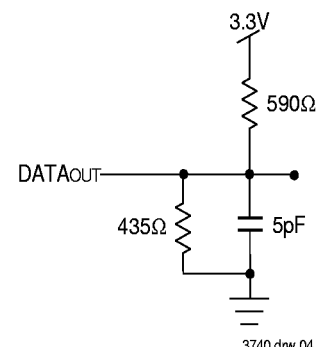

Figure 2. Output Test Load
1. Transition is measured  $\pm 200\text{mV}$  from Low or High-impedance voltage with Output Test Load (Figure 2).